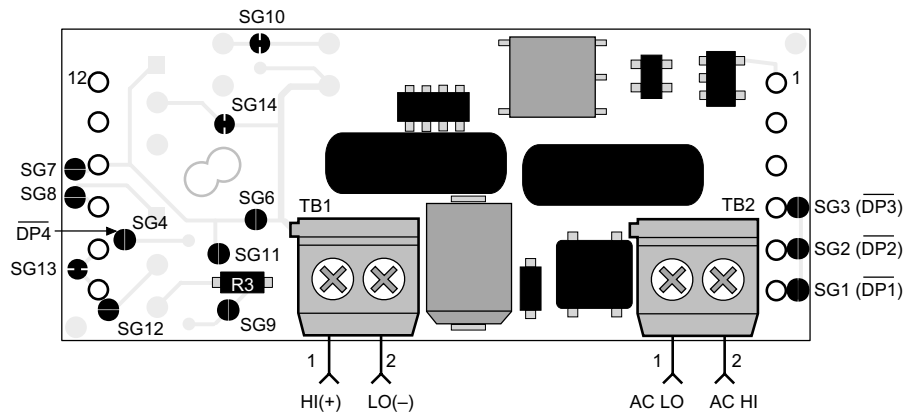

Figure 2. DMS-EB-AC/DC Board
4. DMS-40LCD Meters: The RN-DMS resistor accessory kit, comprised of potentiometers R4 (Gain/Span) and R5 (Offset/Zero), **cannot be used** with DMS-40LCD Series meters. However, to change the input range on DMS-40LCD meters from the default low-range (i.e., with pin 2 of the meter open) to the high range, short pin 2 to pin 1 (+5V) on the top right side of DMS-EB-AC/DC board (refer to Figure 2 and the DMS-40LCD data sheet for more information).
6. Solder Gap Identification (See Figure 2): Each solder gap's respective number is printed directly on the pc-board surface in copper etch. Be sure to double check all solder gap modifications before applying ac power and the input signal to the DMS-EB-AC/DC.